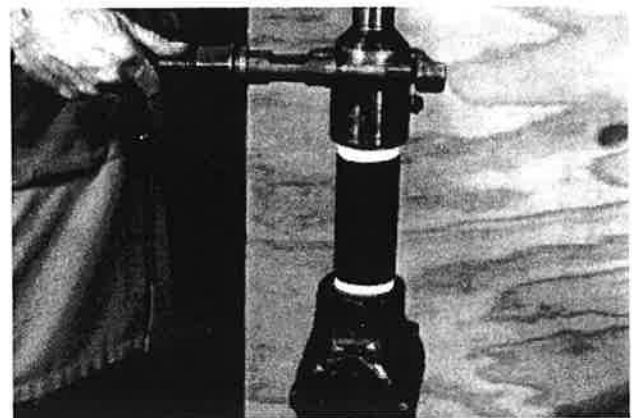

Figure 35. Install Drilling Machine
- A. Attach machine to tapping valve. See Figure 35. Operate valve to make sure it opens and closes without interference from tip of pilot drill. Be sure valve is in full-open position before continuing to next step.